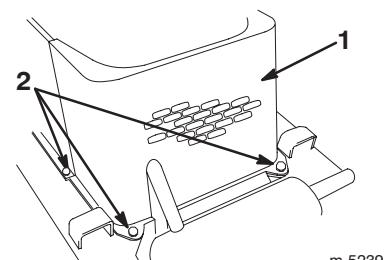

Figure 21
5. Remove the 4 bolts securing the front screen to the traction unit frame and remove the front screen (Fig. 21).